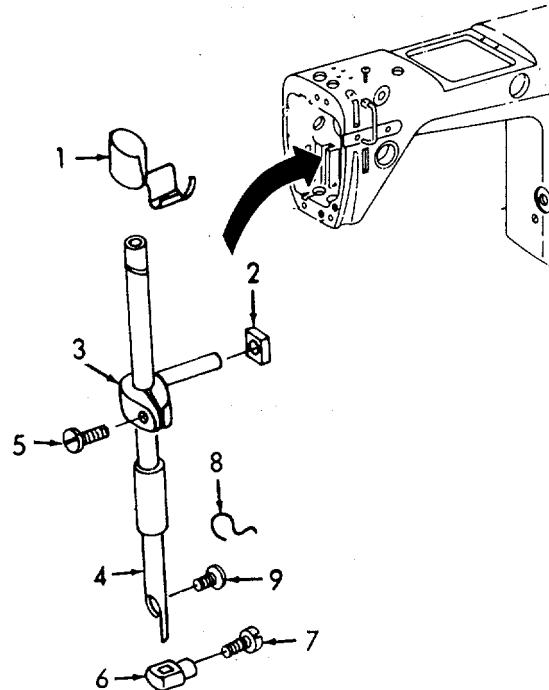

Figure 6-66. Needle Bar, Installation.
e. *Installation (Refer to Figures 6-66 and 6-67).*
- (1) Refer to Figure 6-66. Install the oil wick retainer (1) with the attached oil wick.
- (2) Install the slide block (2) and connecting stud (3).
- (3) Slide the needle bar (4) into position. Adjust for 1-3/8 inches of exposed bar when the needle bar is at the top of the stroke.
- (4) Tighten the setscrew (5).
- (5) Install the needle clamp (6) and tighten the setscrew (7).
- (6) Install the thread guide (8) and screw (9).